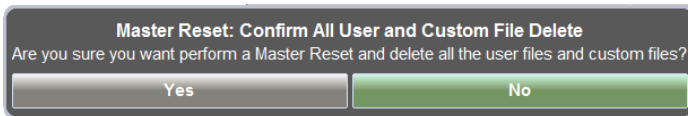

Figure 1-2. Master Reset Confirmation
3. To erase all user files in internal memory, press the Master Reset button. A dialog box is displayed, warning that all settings will be returned to factory default values and that all user files will be deleted (Figure 1-2). Deleted files cannot be recovered.